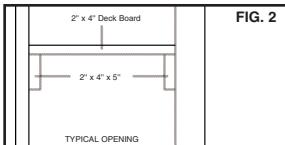
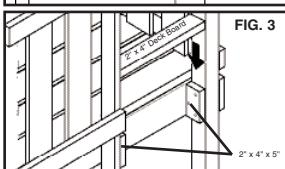

FIG. 2
FIG. 3
1. Make sure slide opening is between 23 -1/4" and 28". (Fig. 2 represents a typical slide attachment opening). If not, prepare slide attachment opening by cutting two 2" x 4" x 5" and one 2" x 4" to the width of slide opening shown in (See Fig. 2). Place the 2" x 4" x 5" deck supports so that the top of the 2" x 4" deck board is flush with the top surface of the existing deck boards. (See Fig. 3)